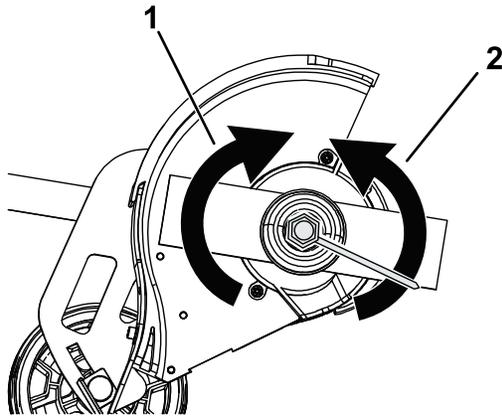

Figure 13
3. Remove the blade nut by turning it clockwise using the edger adjustment tool provided (Figure 13).